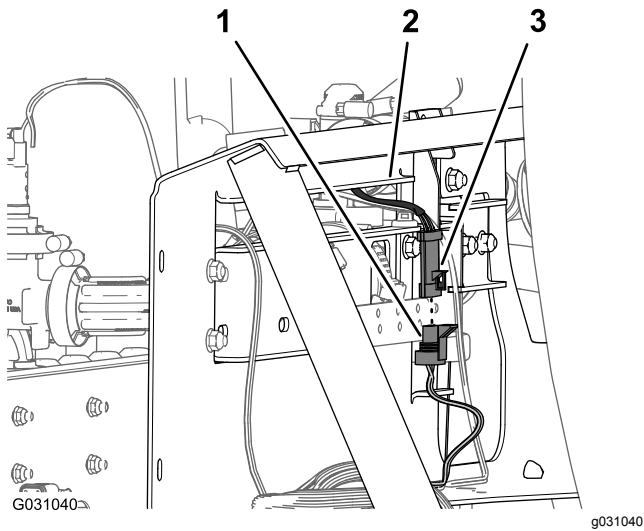

Figure 103
6. Connect the 3-pin connector for the harness of the agitation valve into the 3-socket connector of the 203 cm (80 inch) wire-harness branch labeled **Agitation Valve** (Figure 103).